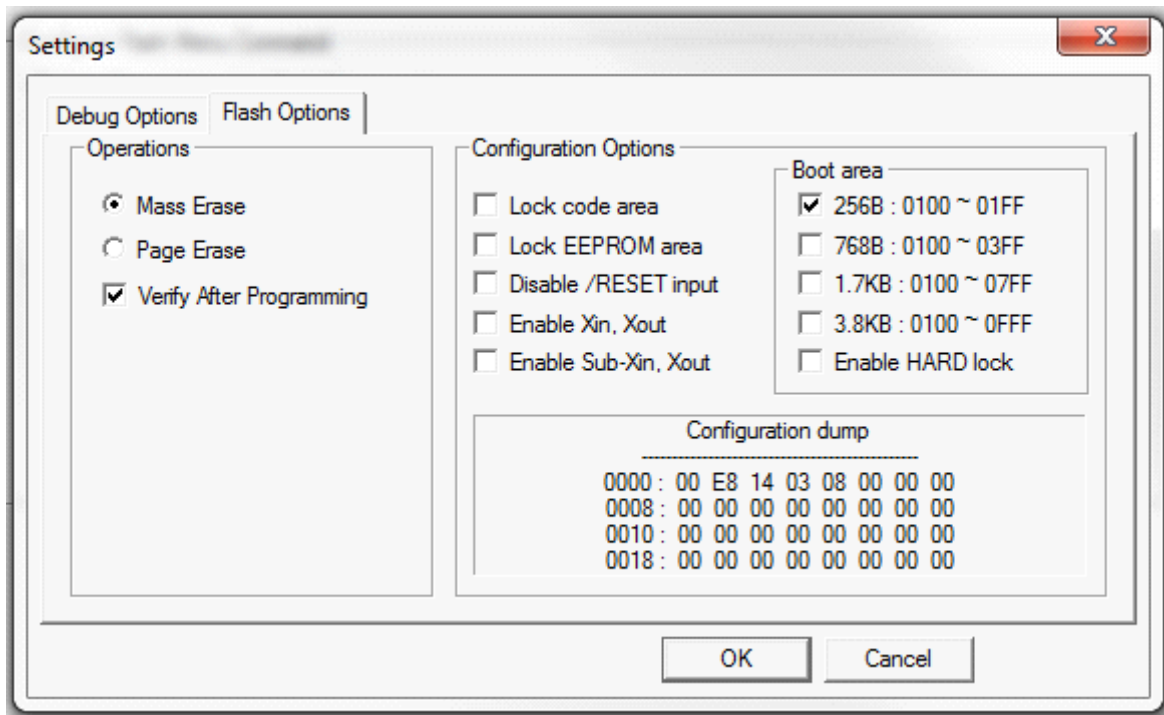

Figure 39. Configuring Additional Flash Options
2. Click the **Settings** button to change any additional Flash options. The Settings dialog will appear, as shown in Figure 39.